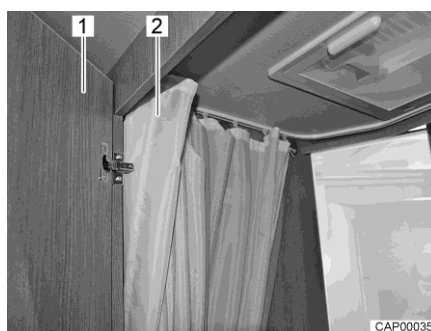

Fig. 111 Toilet compartment with shower
- For showering, close the door (Fig. 111,1) and completely close the shower curtain (Fig. 111,2) so that all walls are protected.